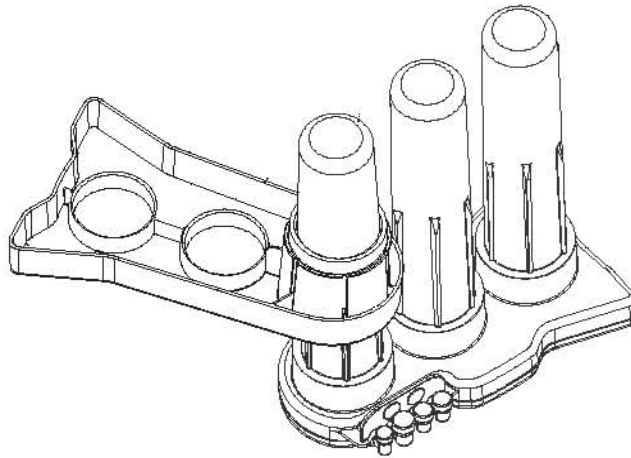

Figure 7
5. Remove the support leg from the three sumps and unscrew the top sump as shown to access the prefilter element. The support leg functions as a wrench to loosen the sump, Figure 7.